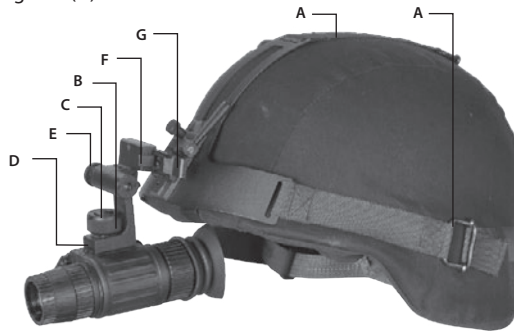

FIGURE 3-3. MOUNTING THE N-14 TO A HELMET
1. Attach the mount to the helmet as shown in Figure 3-3.
2. Adjust and tighten the straps (A).
3. Loosen the screw (B). With the button (C) pushed down, insert the N-14 rail into the guide (D) of the helmet mount bracket. Tighten the screw (B).
5. Push the button (F) and move the unit along the slide-rail (G) until the most comfortable position is reached.
6. To adjust the unit for comfort, loosen the screw (B) and move the unit along the guide (D).
7. To remove the N-14 and turn it around, push the button down (E) and lift the unit up until it reaches the top position. Once it reaches this position, the unit will turn off automatically.
8. Push the same button (E) to lower the N-14 into the proper viewing position. Turn the unit on to proceed with your mission.
In Figure 3-3, the N-14 is shown in the correct position for the right eye. To readjust the N-14 for the left eye, reverse its positioning and reinstall it on the helmet mount bracket (see Figure 3-3). Use the second unit rail located on the opposite side of the unit. Push the button (F) and move the unit along the slide-rail (G) until the most comfortable position is reached.